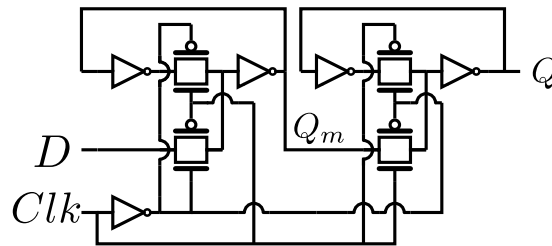

Figure 1
3. Fig. 1 depicts a Master-slave register. a) Explain, in terms of voltage transitions at